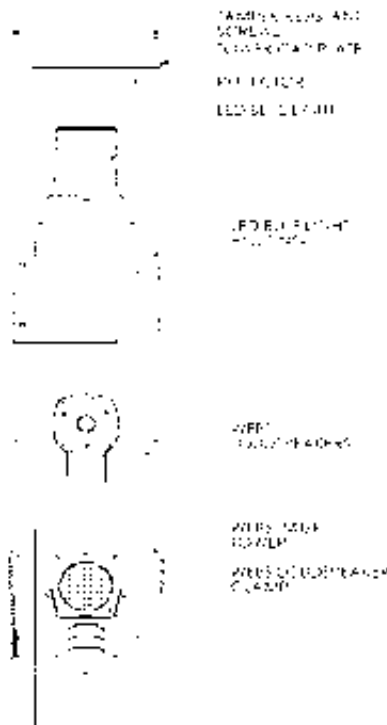

Figure 1. Installing the WEBS Loudspeakers and LED Blue Light Housing Assembly.
3. Take off the tower cap plate along with the LED Blue Light housing as shown in **Figure 1**. Install the four WEBS Loudspeakers and clamp them down to the tower metal, insuring a tight fit with their respective gaskets. Install the LED Blue Light to the base of the housing and fasten the entire assembly on to the tower. Reattach the cap plate to the tower.